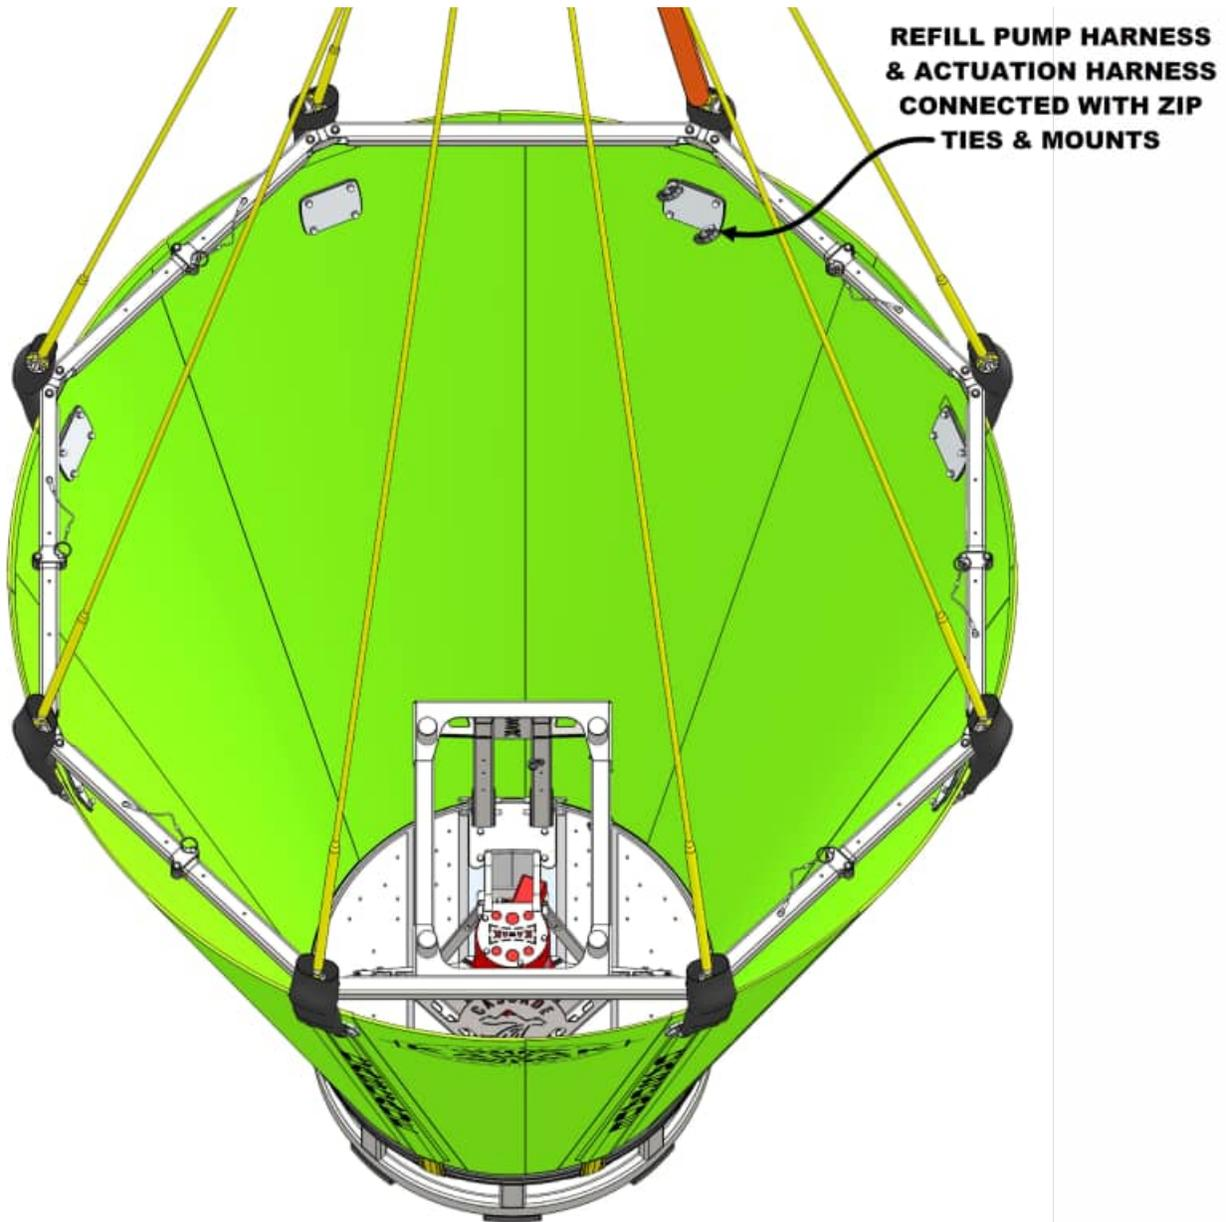

Figure 36 Skin Assembly Clocking
14. Bring the valve base to the bottom of the skin and tip it onto its side. Clock the skin so the zip tie mounts are positioned as shown in Figure 36.